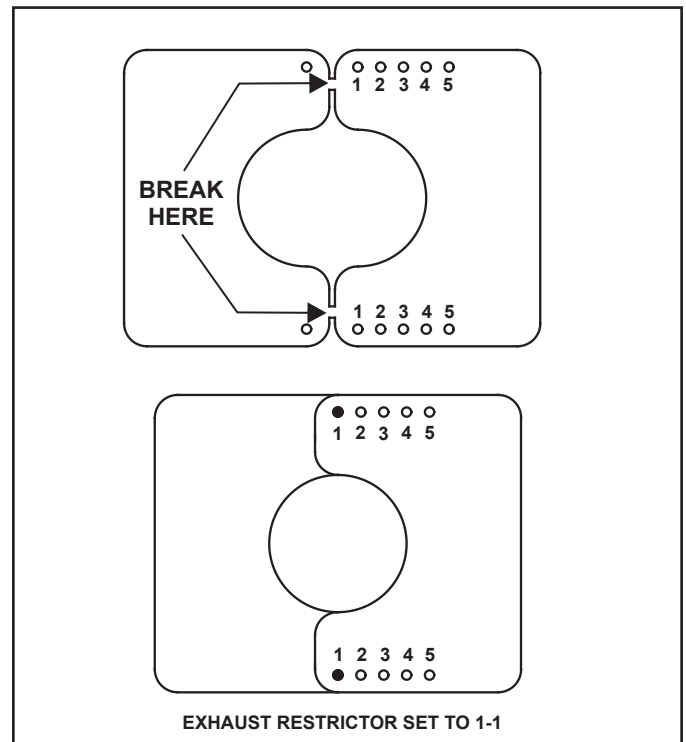

Figure 4.13 Exhaust Restrictor Installation
2. Break the exhaust restrictor into two pieces. Do this by bending the part back and forth until it breaks. See Figure 4.13.
3. Orientate and align the two pieces of the exhaust restrictor as shown in Figure 4.13.